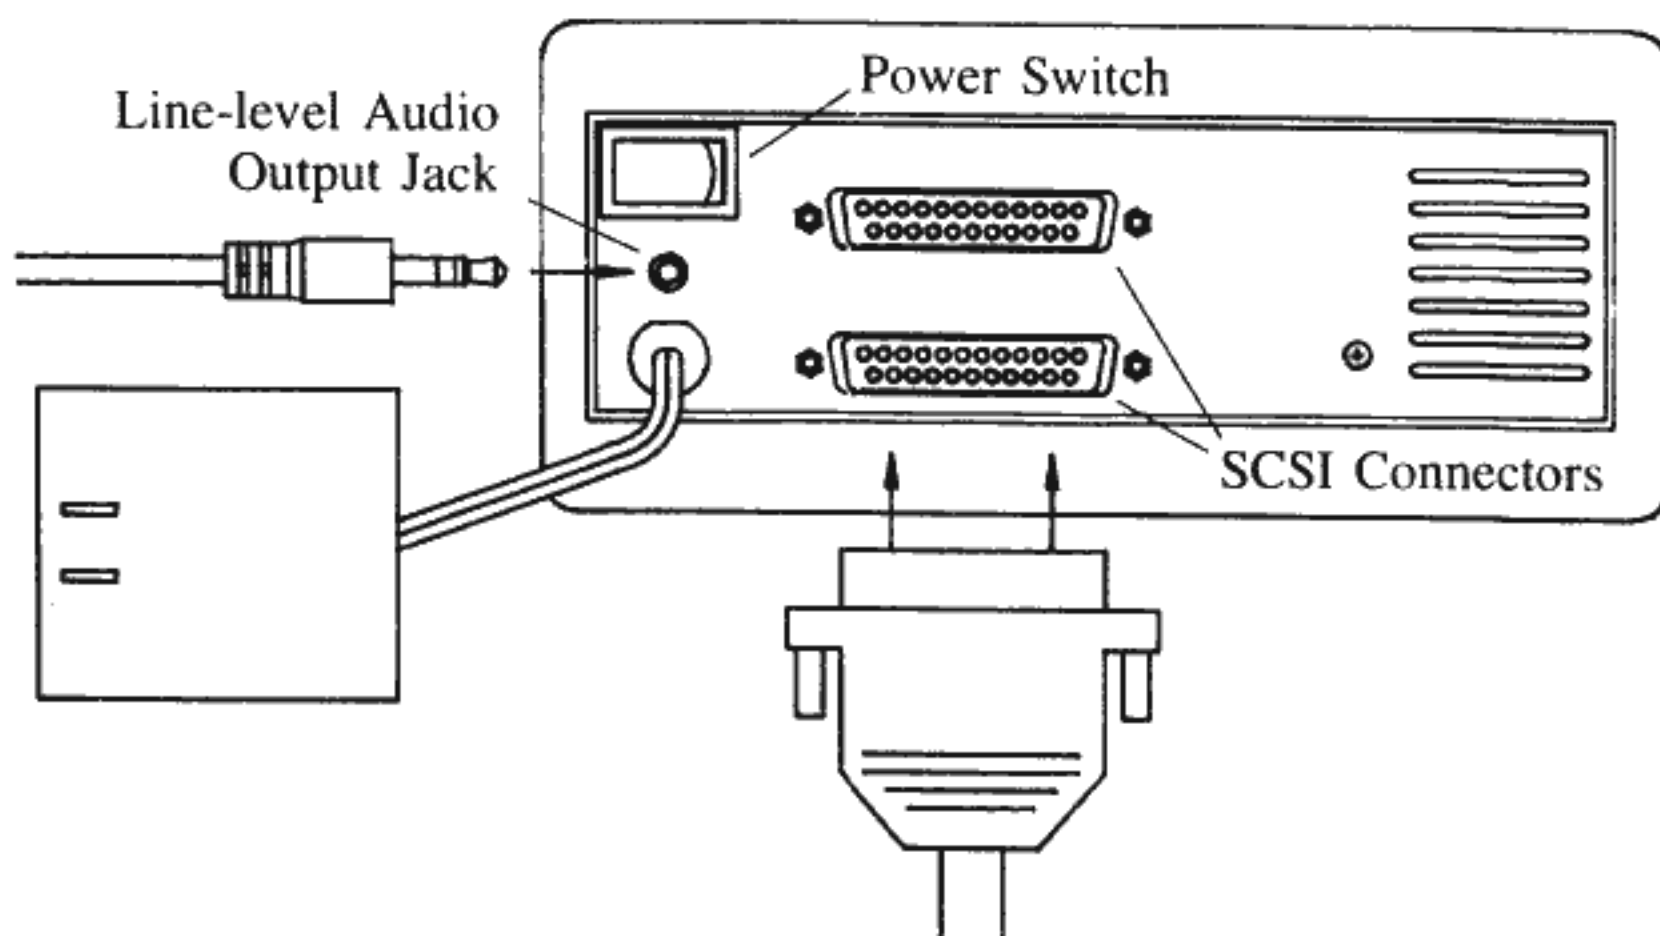

Fig. 11 - CDx-650E Back View
- 5) Attach the other end of the included cable to one of the connectors on the back of the CD-ROM drive. See Fig. 11. Again, secure the cable with the attached screws.